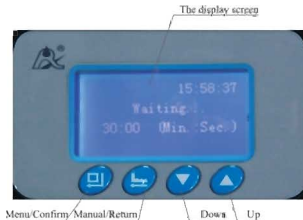

Figure 13
③ As the Figure 13 shows, after inserting the reagent bottle in the device, please screw the bottle anticlockwise to fix it. (The arrow direction on the bottle is the direction to unscrew).